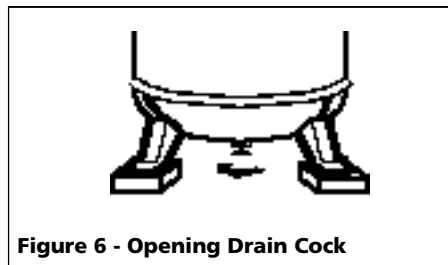

Figure 6 - Opening Drain Cock
1. Open drain cock completely and run the compressor for 60 minutes (See Figure 6).
Drain Tank (See Figure 6)	●